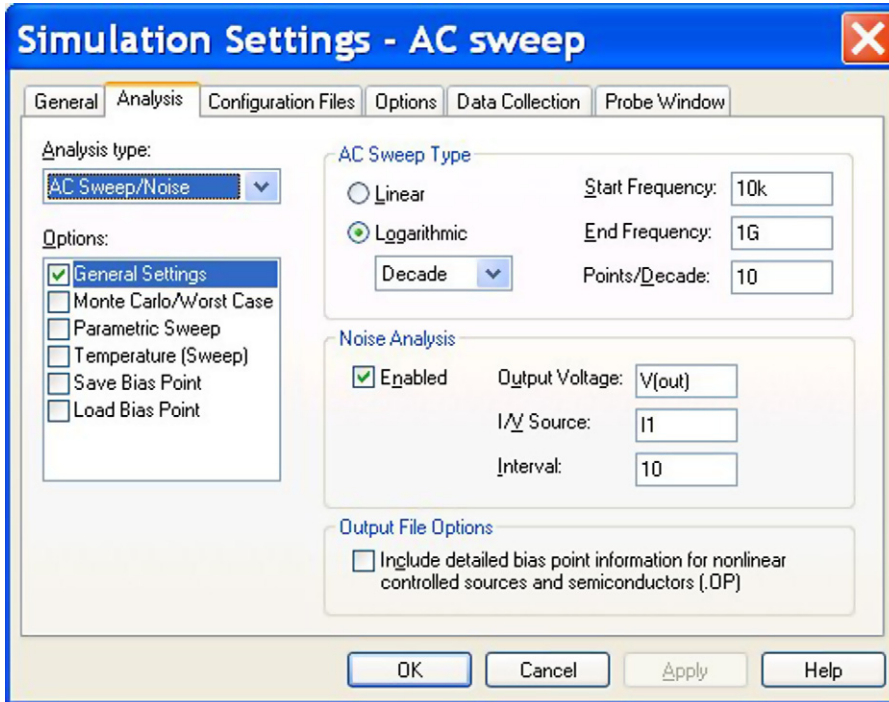

FIGURE 14.3
2. Create a PSpice simulation profile and set up an AC sweep from 10 kHz to 1 GHz using a logarithmic sweep using 10 points/decade. Enable **Noise Analysis**, defining **V(out)** as the output node and **I1** as the source (Figure 14.3).